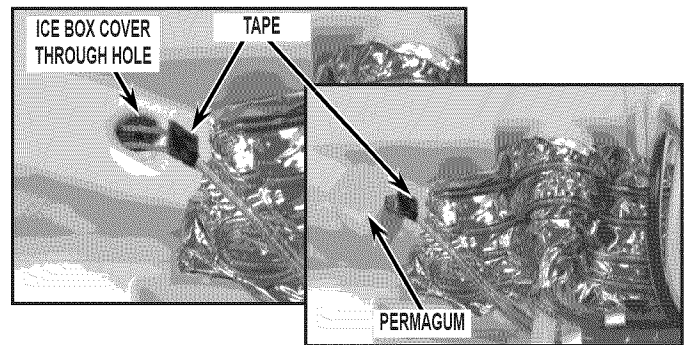

FIGURE 18
25. Continue to pull connector and wires from new fascia with heater through the ice box cover through hole until the tape (or mark) on wire harness is outside of ice box cover. Add permagum to outside of ice box cover through hole, securing location of harness. See *Figure 18*.